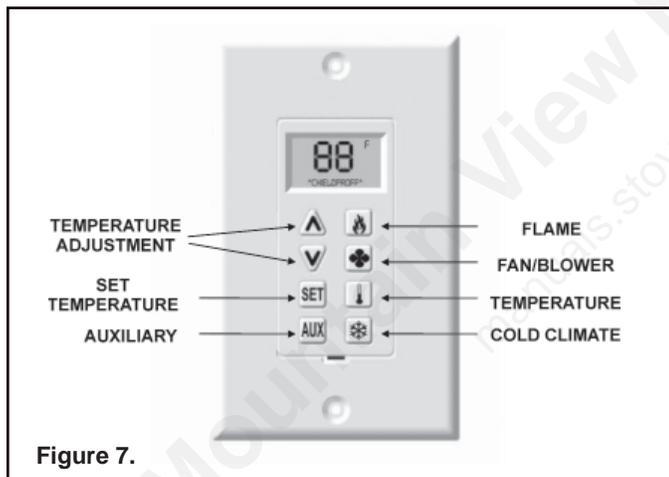

Figure 7.
- Press flame button once (Fig. 7); fireplace will light with flames on high.
- Turn solenoid clockwise to increase pressure, counter-clockwise to decrease pressure until manifold pressure on high is 3.5" water column for natural gas (NG), 10.0" water column for propane (LP).
(Refer to Figure 7)